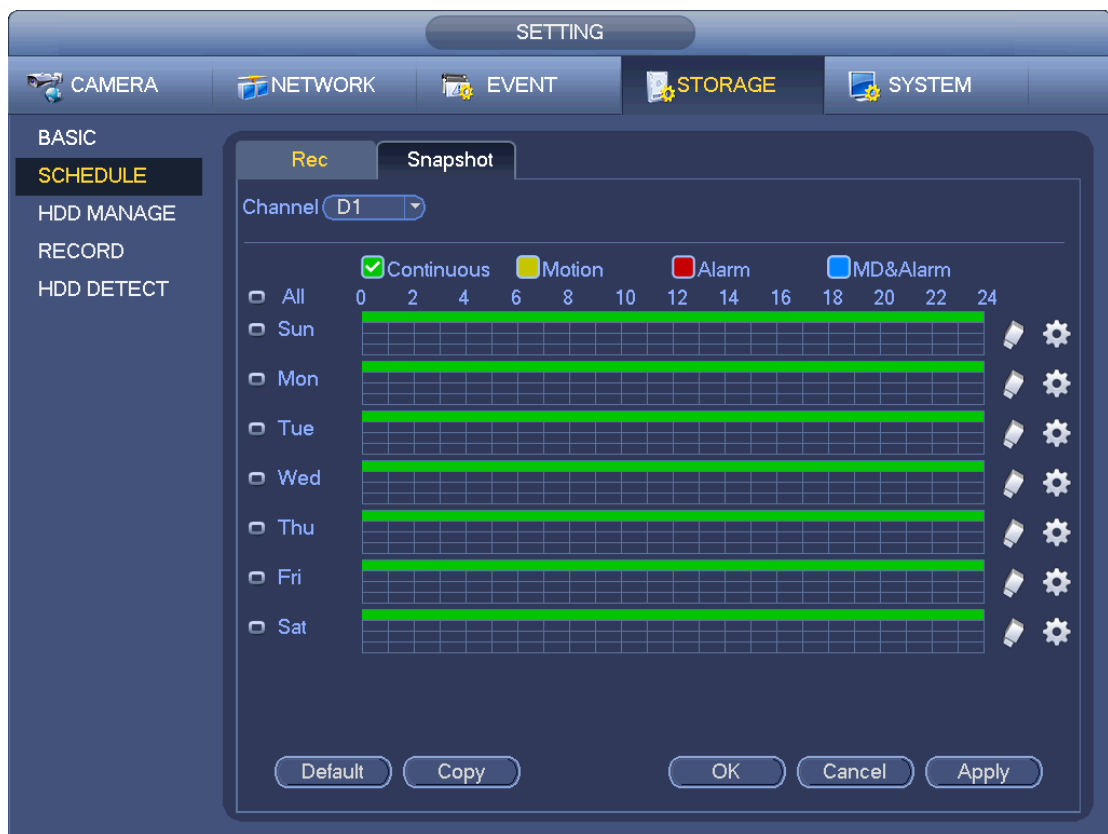

Figure 4-33
Step 1 Click Snapshot button, device goes to following interface. See Figure 4-33.